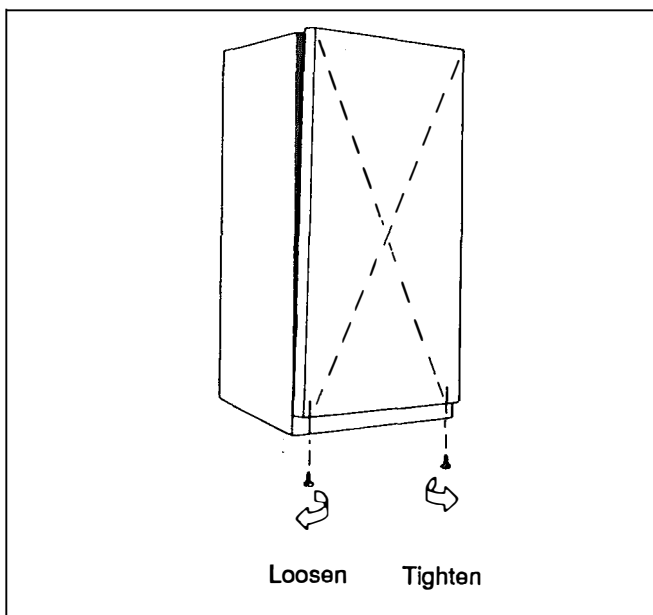

Figure B9 - Adjusting Seal At Top
2. If the door does not seal at the top, tighten the right hand, and loosen the left hand adjustment screws. See Figure B9.